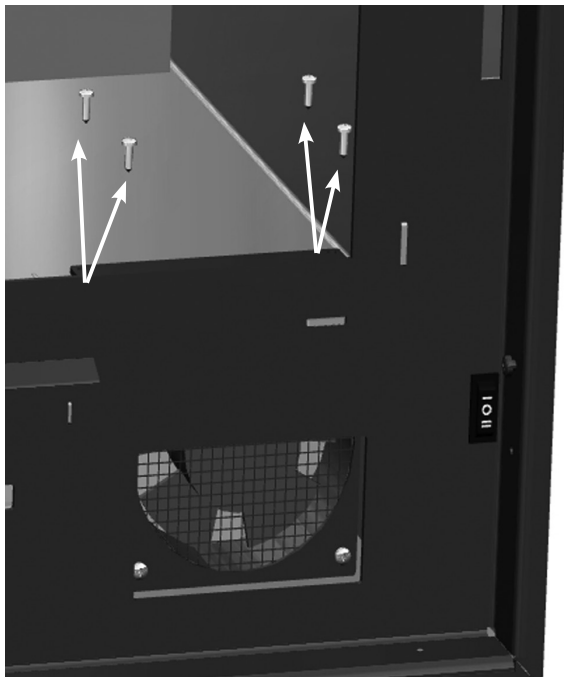
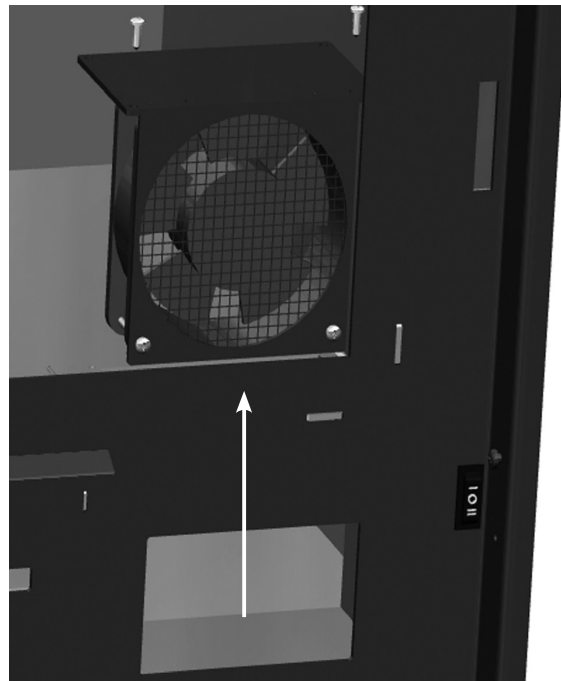

FIG. 2
FIG. 3
2. Loosen the 4 top screws that secure the fan assembly and remove it from its housing by pulling gently upwards. (Fig. 2 and Fig. 3).